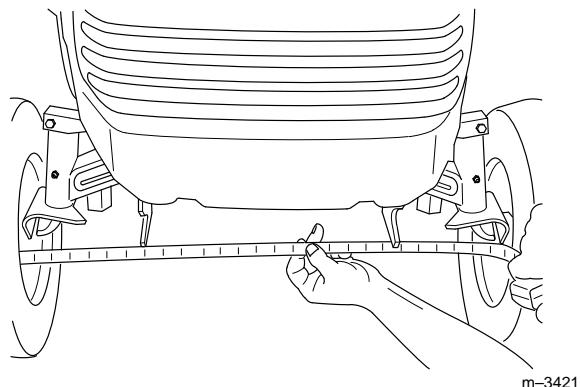

Figure 43
Maintaining correct front wheel toe-in is important for safety, Smart Turn™ Steering operation, and ease of use. If uneven tire wear, lawn scuffing, or hard steering develop, adjustment may be required. Check the toe-in after every 100 operating hours or once a year, whichever occurs first (Fig. 43).
4. Measure the distance between both of the front tires at spindle level (at the front and rear of the wheels) (Fig. 43).